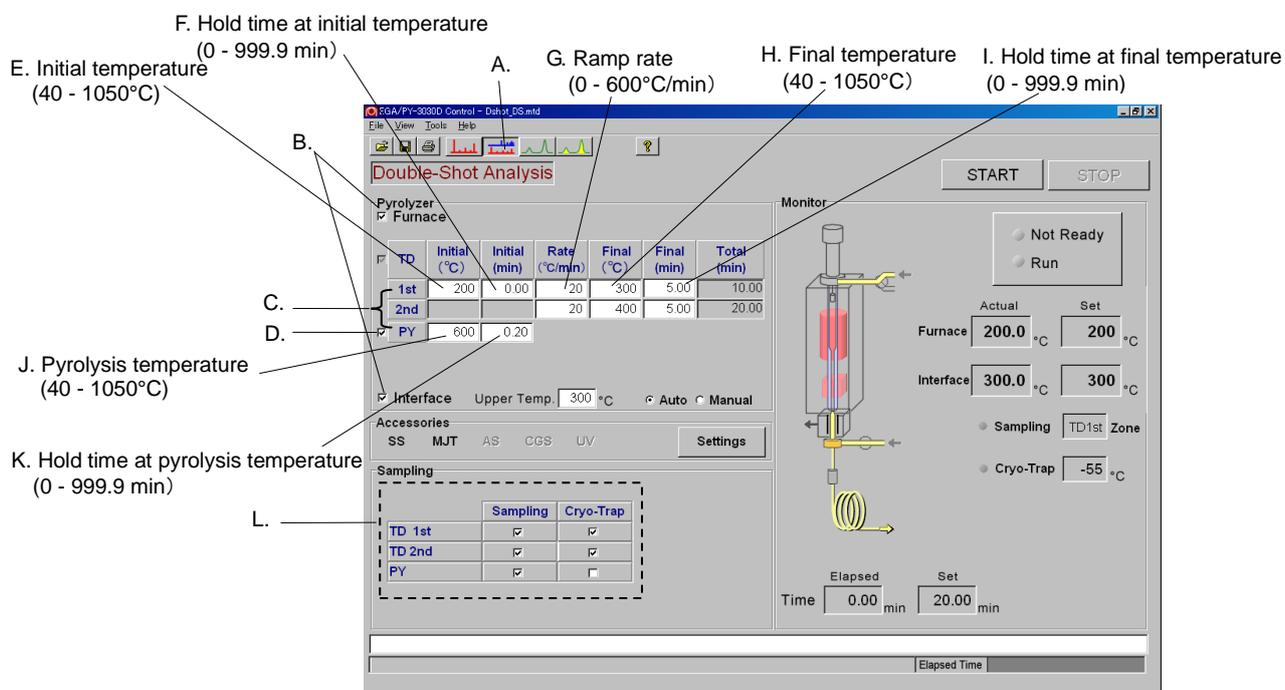
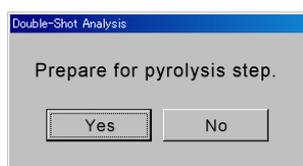

Fig. 4.9 Set-up screen for Double-Shot Analysis
Fig. 4.11 Dialog box showing the end of desorption program in Double-Shot analysis
From the menu bar, select “Tools” – “Analytical Modes” – “Double-Shot Analysis” or click on “Double-Shot Analysis” icon (A) on the toolbar. The set-up screen shown in Fig. 4.9 is displayed. In this analysis mode, thermal desorption (TD) and pyrolysis (PY) can be performed sequentially.
- (8) Manually push the Double-Shot sampler down which positions the sample cup in the furnace. Immediately, click on the "Start" button of the dialog box or hit "ENTER" key on the PC keyboard. *This will start the thermal desorption sequence.*
- (9) When the thermal desorption program is complete, the dialog box shown in Fig. 4.11 will be displayed. Pull up the Double-Shot sampler; this positions the sample cup above the furnace at near ambient temperature. When the column inlet pressure has stabilized, click "Yes" button. *This will start the GC and the pyrolyzer furnace temperature will be heated to the pyrolysis temperature set (J) in Fig. 4.9.*